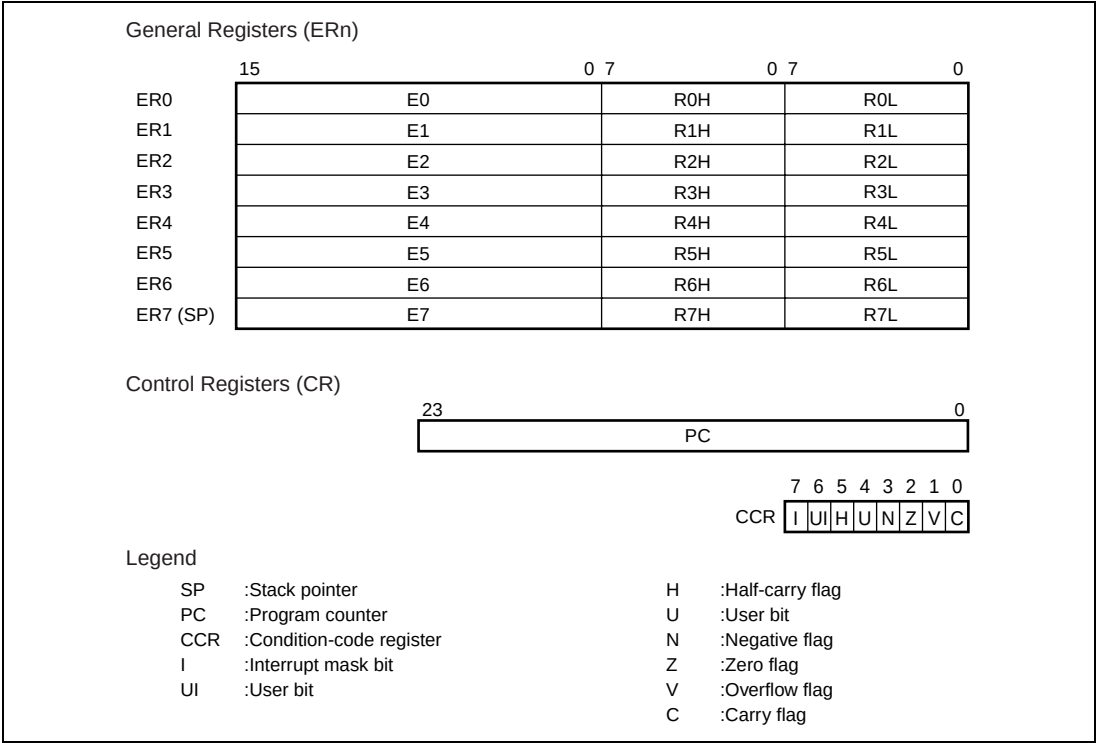

Figure 2-2 CPU Registers
The H8/300H CPU has the internal registers shown in figure 2-2. There are two types of registers; general registers and control registers. The control registers are a 24-bit program counter (PC), and an 8-bit condition code register (CCR).